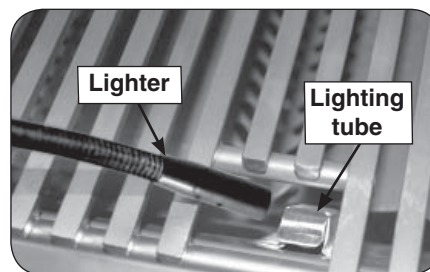

Fig. 23-2 - Manual lighting
**CAUTION:** Always wait five (5) minutes for gas to clear after any unsuccessful lighting attempt.
2. Insert either a burning long-barrel butane lighter or a burning long-stem match through the cooking grid opening to the top of the lighting tube (Fig. 23-2). For backburners, hold the flame against the surface of the backburner.
4. If the burner does not light within five (5) seconds of turning the control knob, **immediately depress the knob and turn the valve to OFF**. **WAIT FIVE (5) MINUTES** before repeating steps 2 through 4 of the MANUAL LIGHTING instructions.